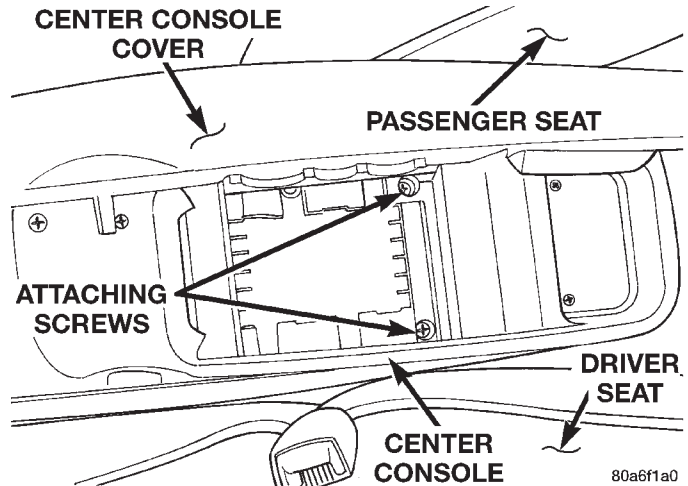
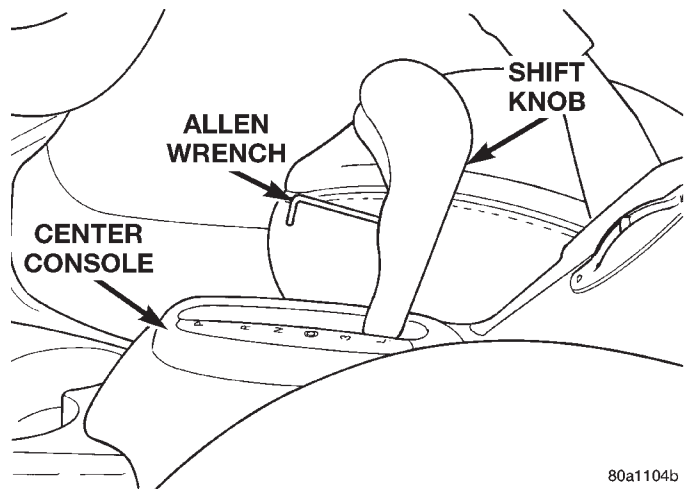
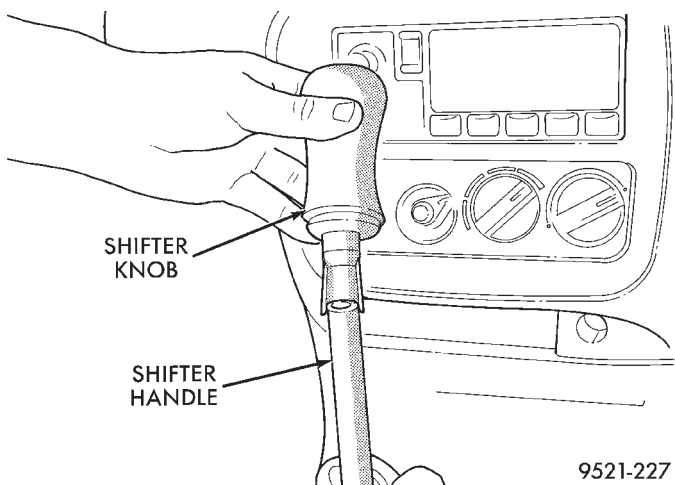

Fig. 127 Center Console Rear Attaching Screws
Fig. 128 Shift Knob Retaining Screw
Fig. 130 Gearshift Knob Removal
- (1) Remove the 2 screws (Fig. 127) attaching rear of center console assembly to console bracket.
- (2) If vehicle is equipped with an automatic transmission remove the shift knob from the shifter. The gear shift knob is attached to the shifter using a set screw (Fig. 128). Access to the set screw is from the front of the shift knob and is removed using a 2 mm allen wrench (Fig. 128).
- Remove the shifter knob from the shifter handle, by pulling the shifter knob straight up (Fig. 130).
- (11) Install screws attaching rear of center console assembly to console bracket (Fig. 127).
- (12) Install the shifter boot or PRNDL plate back in the center console.
- (13) Install the shift knob on the shifter (Fig. 128) or (Fig. 130).